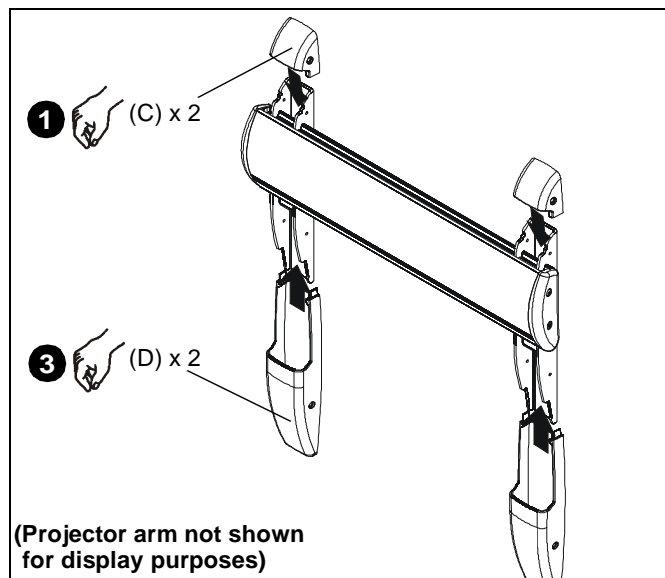

Figure 34
1. Place wall bracket top caps (C) over top of each wall bracket arm. (See Figure 34)
3. Place wall bracket bottom caps (D) over bottom of each wall bracket arm. (See Figure 34)